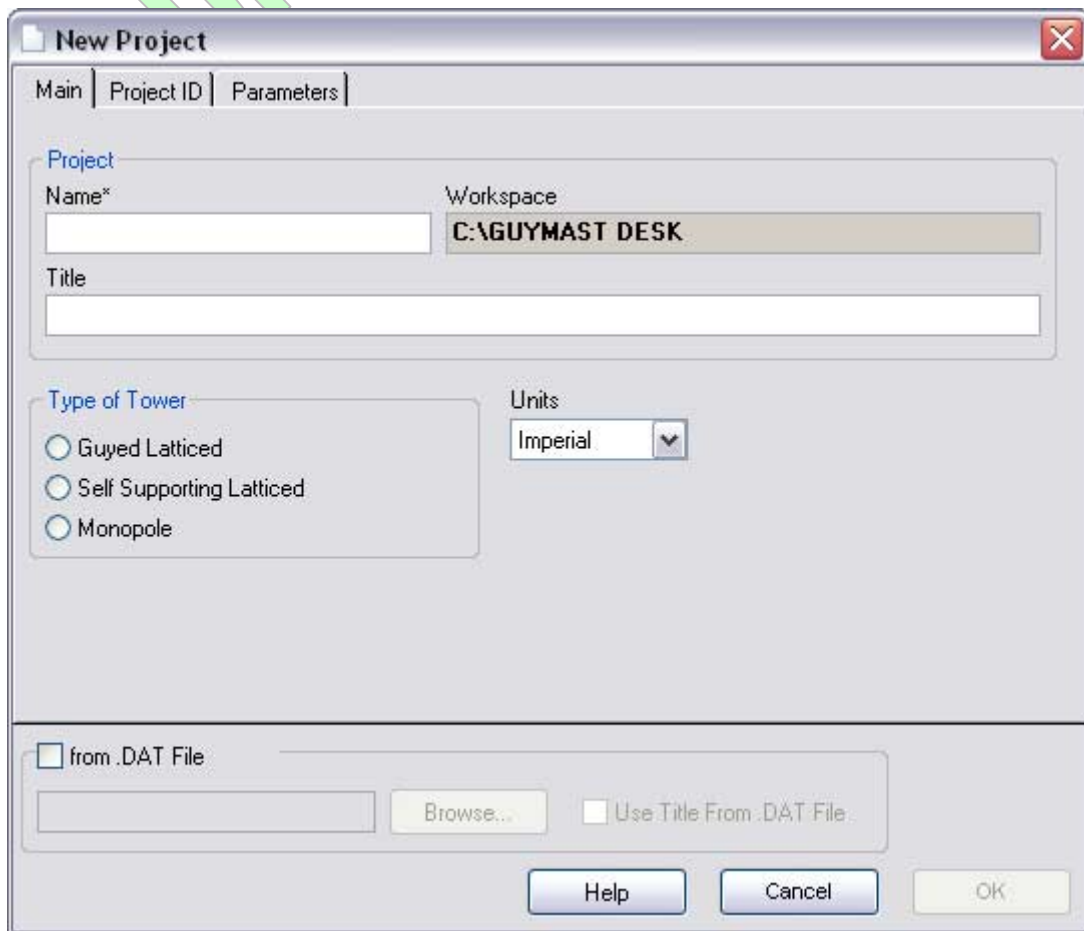

Figure 18 — New Project dialog box Main tab
In the *Main* tab (Figure 18 below), the tower project file base formatting are specified.
- ! Two fields **must** be specified to create a new project: *Project Name* and *Type of Tower* on the *Main* tab (Figure 18 below). The *OK* button to exit the dialog box and create the new project is enabled with this data.